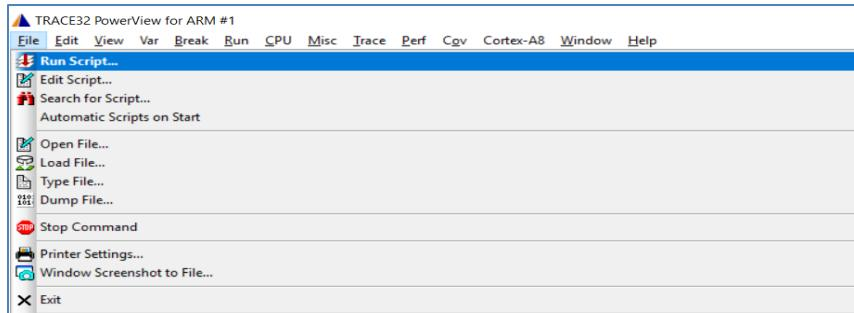

Figure 13. Run script option from Trace32
- Make sure project build status is successful as shown in Figure 13.